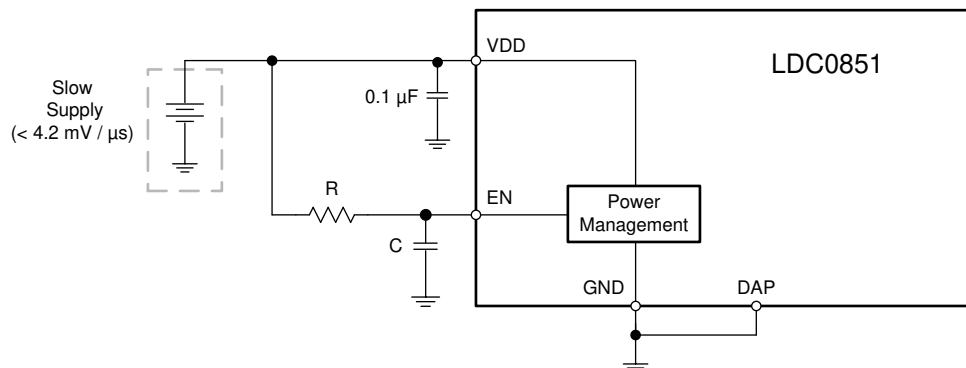

Figure 7-9. Supply Connections for Slow Ramp Rate
For supply ramp rates slower than 4.2 mV/ μs , an RC low pass filter must be added to the enable input (EN) as shown in Figure 7-9. Alternatively, the EN pin may be tied to a nanotimer or microcontroller to wake up the LDC0851 after VDD has ramped to its nominal value.